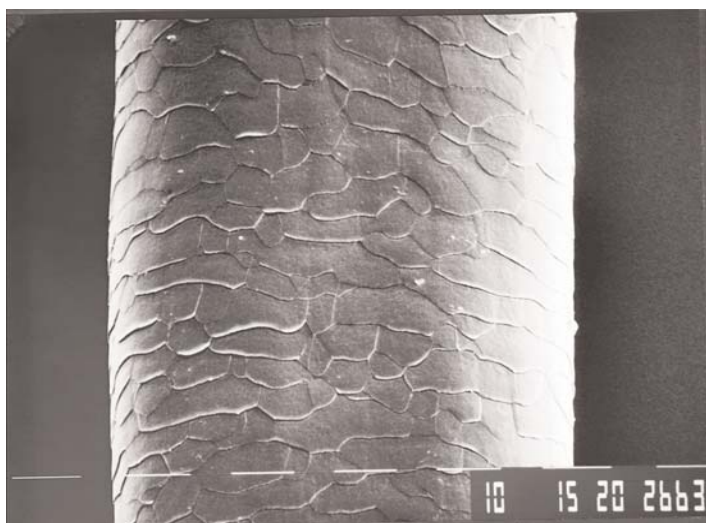

Figure 2: Scanning Electron Micrograph of hair
The outermost layer of skin, the stratum corneum (SC), is of particular interest to cosmetic scientists as this layer is the most influenced by cosmetic products. Hair is composed of a cylindrical cortex about 70  $\mu\text{m}$  in diameter surrounded by an outer protective sheath of overlapping cuticle cells arranged like shingles on a roof (Fig 2). Both substrates are essentially made of a specific class of proteins called keratin, and also contain lipids and water. All these components show distinctive features in Raman spectra.